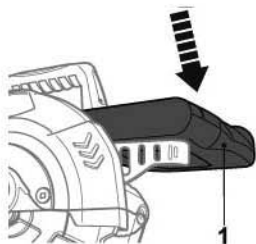

Fig. 29
- Loosen the slide locking knob (24) to allow the cutting head to slight freely (Fig. 29).